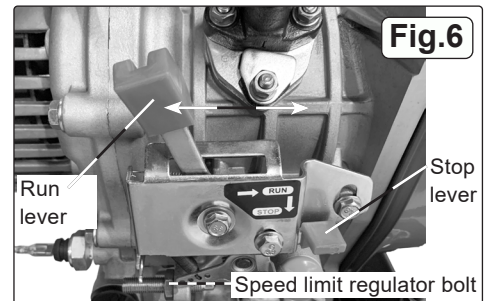
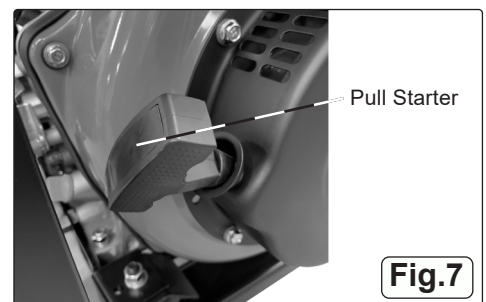

Fig.6
Fig.7
- 7.1.1. To start the engine, follow the procedures below. Push the Run lever to the "RUN" position (Fig.6). Pull the recoil starter slowly until you feel resistance, then give a firm pull to start the engine. Allow the recoil starter to return to its original position slowly to avoid damaging the recoil mechanism and to prolong the life of the starter (Fig.7).
- 7.2.1. Before starting, turn the main starter switch to the 'OFF' position (Fig.8) and ensure the generator has sufficient fuel. Set the engine run lever to the 'RUN' position (Fig.6). Turn the starting key clockwise to the 'START' position, release the key immediately once the engine starts to avoid damage to the starter system.
- 7.3.1. To stop the engine, press the 'STOP' lever down to safely turn off the generator. This lever also functions as an emergency stop in case of urgent shutdowns. Fig.6